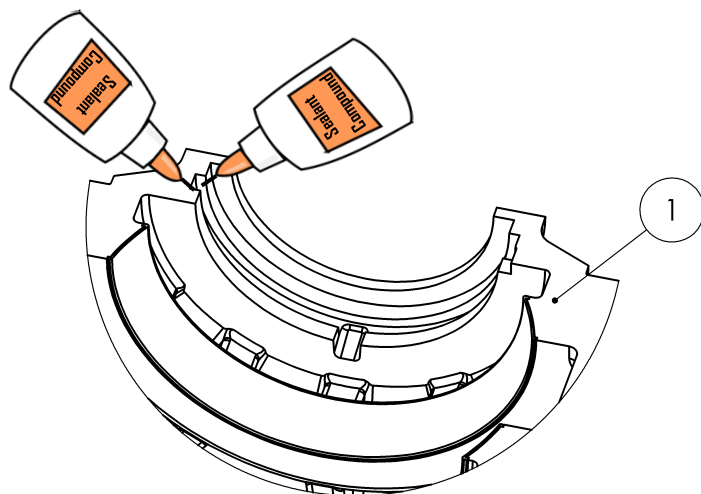

Fig. 21
- Apply an elastic sealant compound to the guide surfaces of the seal groove in the bottom half of the housing (Fig. 21).